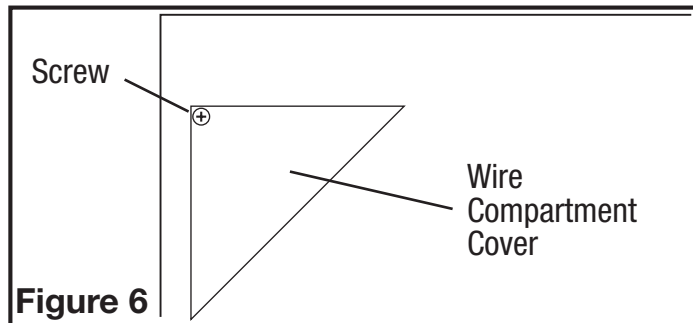

Figure 6
- External Wire Compartment:** Remove the wire compartment cover screw and place cover in a secure place (**Figure 6**).